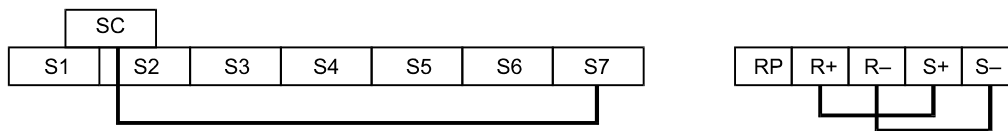

Fig 6.77 Communication Terminals Wiring for Self-Diagnosis
3. Perform the wiring according to Fig 6.77.